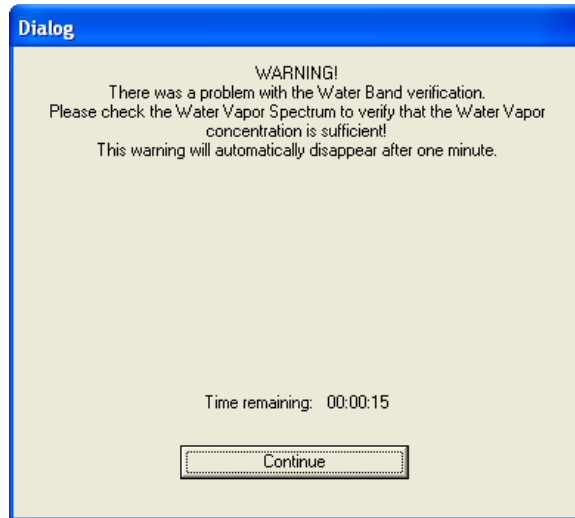

Figure 38: Warning Message regarding the Water Vapor Concentration
- If the warning message shown in figure 38 appears, it is highly recommended to check whether the current water vapor spectrum (with spectrum file name, for example: *PQ_Tensor_37_ExteranI_Port_D316-025_Hyperion_Fequency.1*) is OK. You will find this spectrum in the following directory: *OPUS path\VALIDATION\Data\YYYYMMDD¹\HHMMSS²*. (For detailed information about the file name of the test spectra refer to the OPUS Reference Manual.)